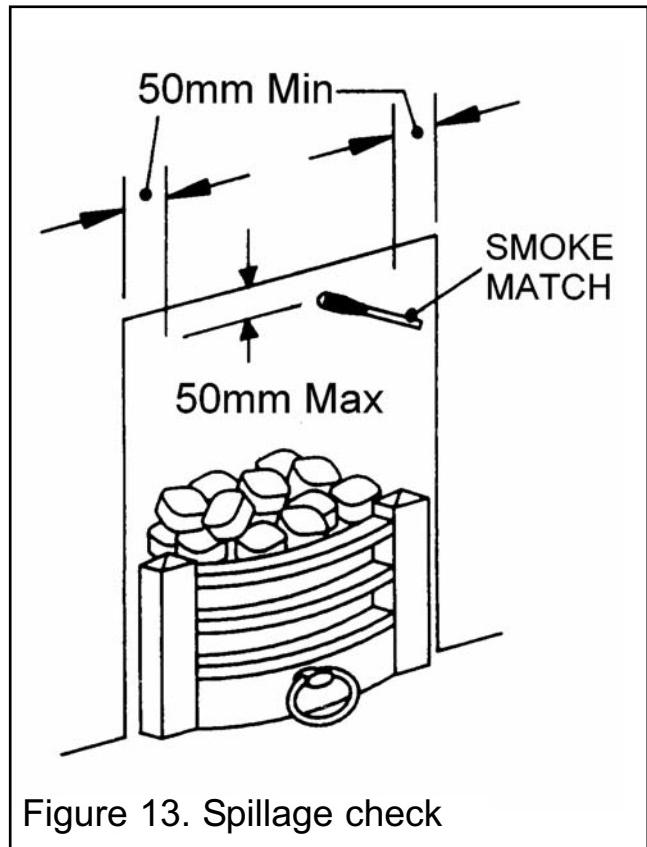

Figure 13. Spillage check
- A spillage check must be made before leaving the installed appliance with the customer. Make this with all the ceramic fuel effect pieces and firefronts / castings are in position (See figure 13).